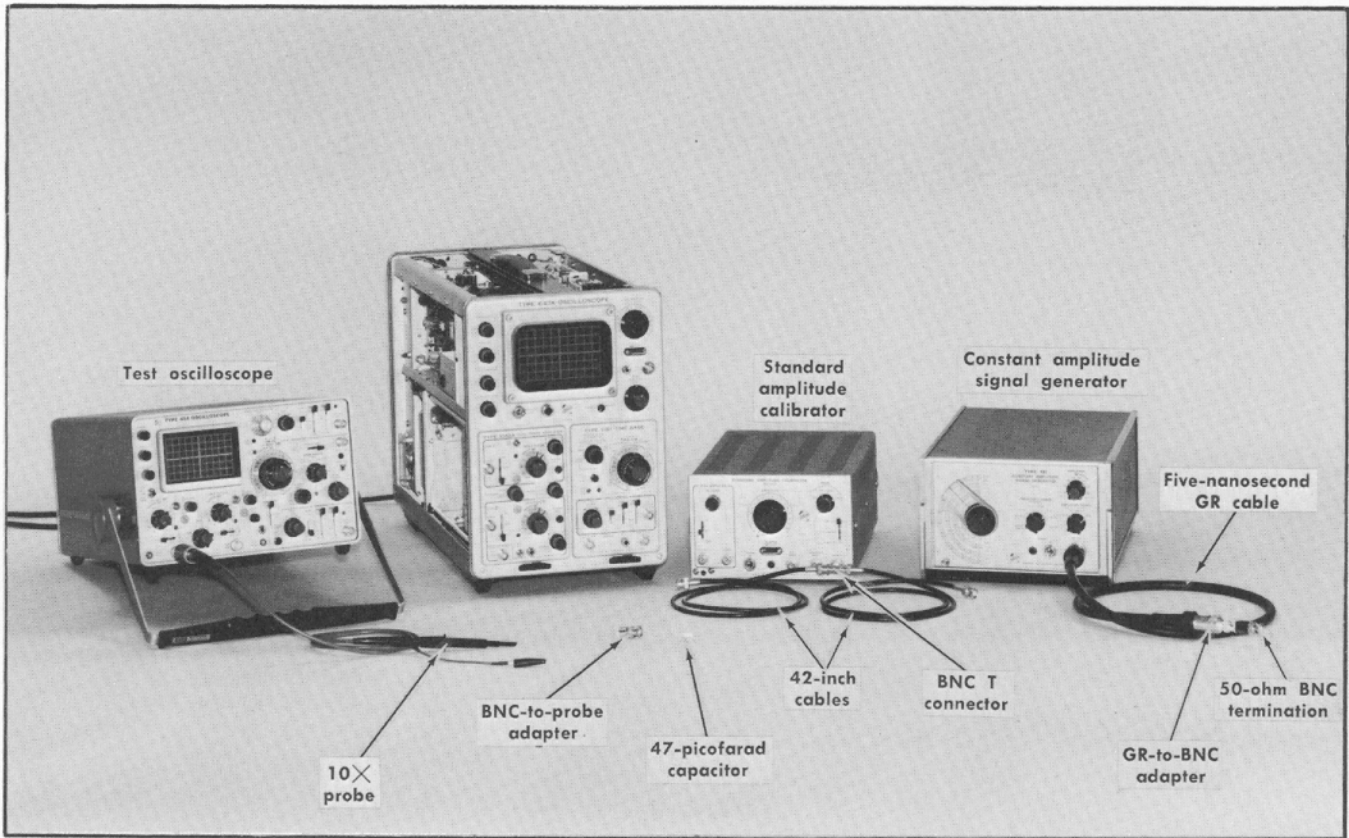

Fig. 5-11. Equipment required for steps 19 through 25.
a. Test equipment for steps 19 through 25 is shown in Fig. 5-11. (The 47-picofarad capacitor is not required when completing performance check only.)